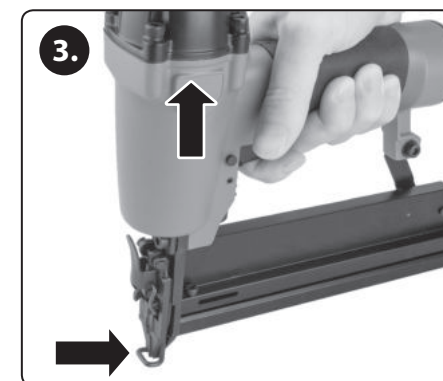

Fig. 5c
3. When the contact switch is compressed, pull the trigger of the nail/staple gun, which will result in the nail/staple being shot out (fig. 5c, step 3).